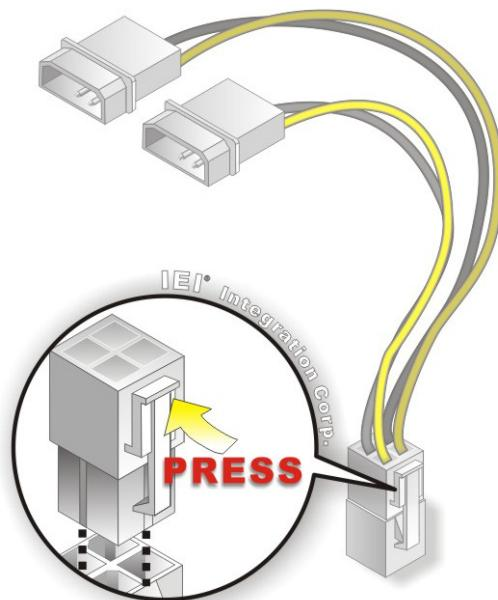

Figure 4-17: Power Cable to Motherboard Connection
Step 2: Connect the Power Cable to the Motherboard. Connect the 4-pin (2x2) Molex type power cable connector to the power connector on the motherboard. See Figure 4-17.